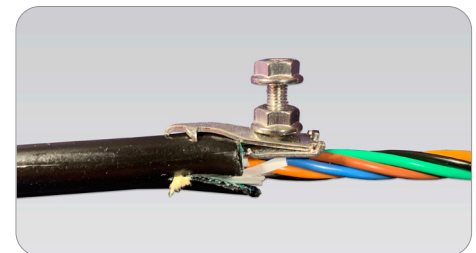

Figure 5
4. Install grounding medium and add second nut. Both nuts need to be tightened to 35-45 inch-lbs with a company-approved tool to ensure proper connection. (Figure 5)